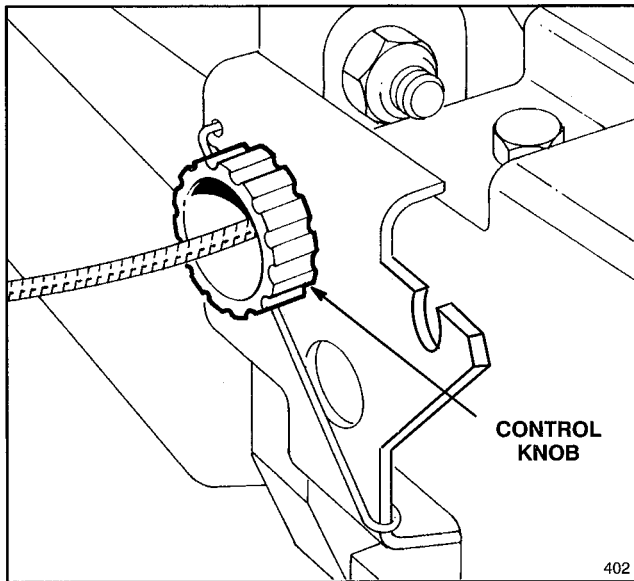

Figure 19
1. **ADJUSTMENT** (Fig. 19)—Rotate control knob clockwise 1/2 turn if mower does not self-propel. If mower creeps forward, rotate knob 1/2 turn counterclockwise to loosen belt.